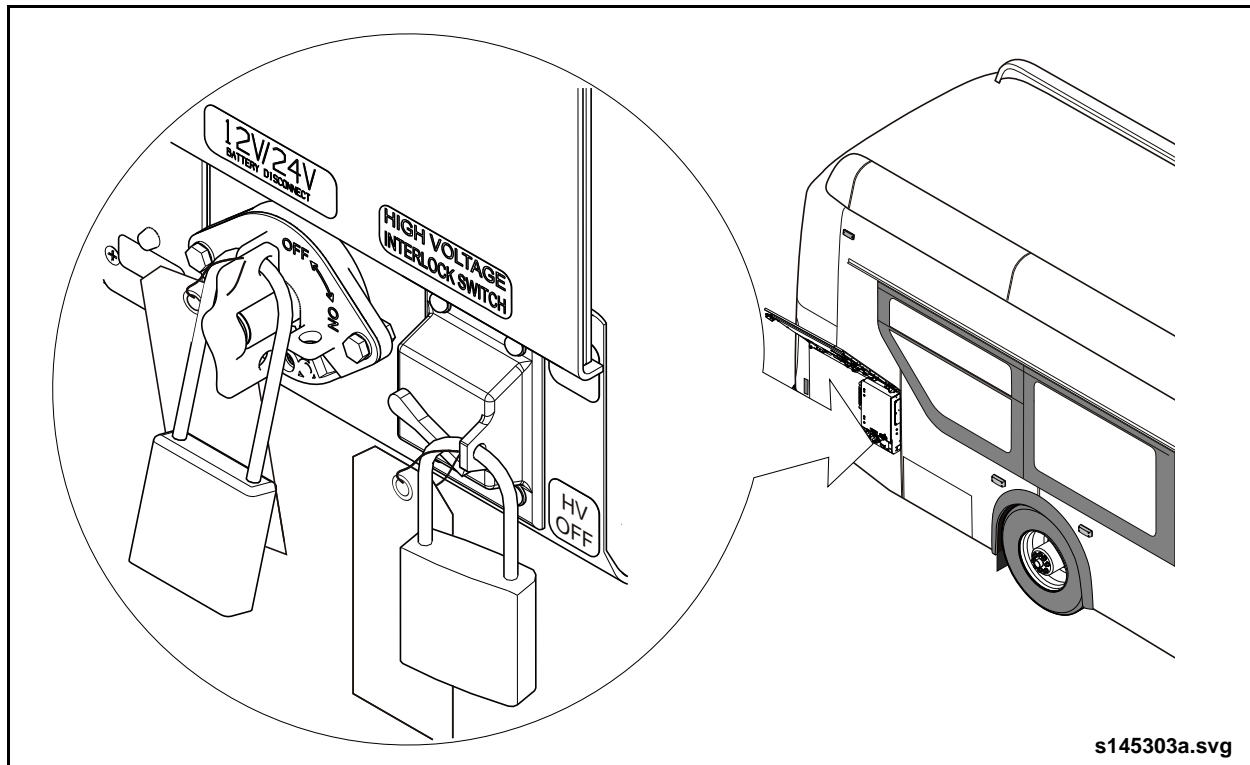

Fig. 1: Locking / Tagging Out
3. Lock and tag the switch and retain key. See "Fig. 1: Locking / Tagging Out" on page 2.